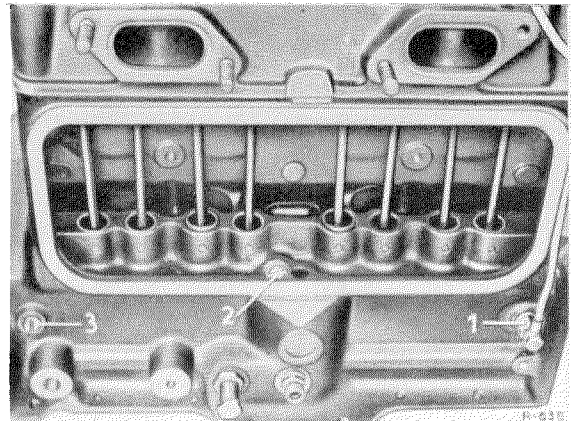

Figure 05-35/1
10. Unscrew the locating screws (1, 2 and 3) (see Figure 05-35/1). The oil line must first be disconnected at the screw (1), which is designed as an adapter and connector for the oil line lubricating the rockers.